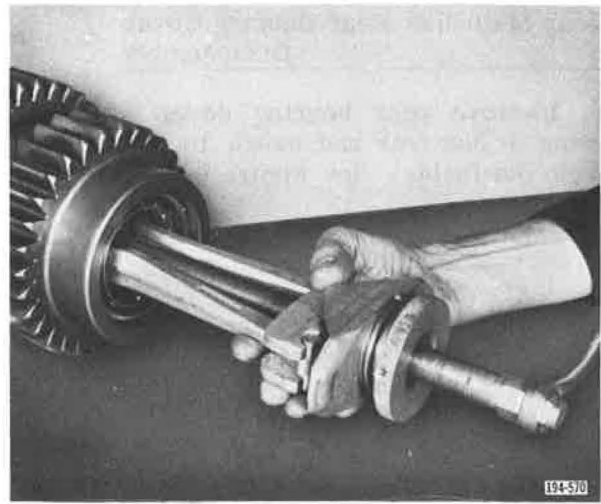

Figure 5-319. Removing Bearing
2. Remove rear countershaft front bearing using tool CG-270. See Figure 5-319.